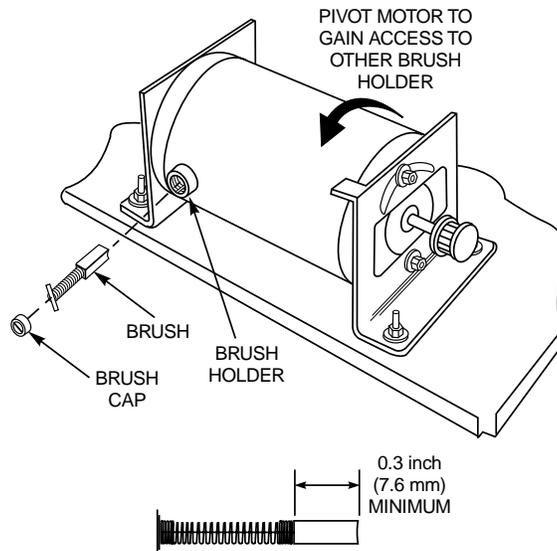

Figure 15. Inspecting and Replacing Brushes
3. Refer to Figure 15, and remove the brush caps.